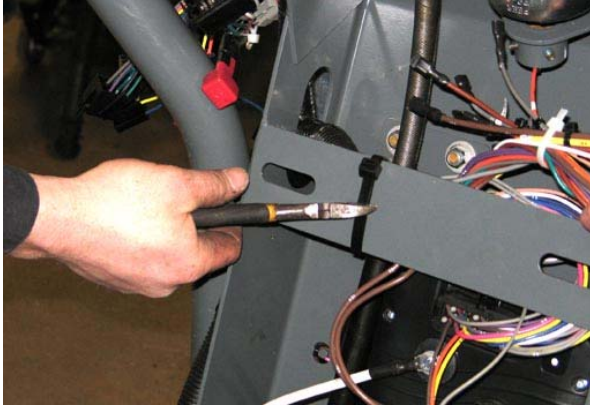

FIG. 24
25. Cut the cable ties from both steering channel cross members. (Fig. 24)